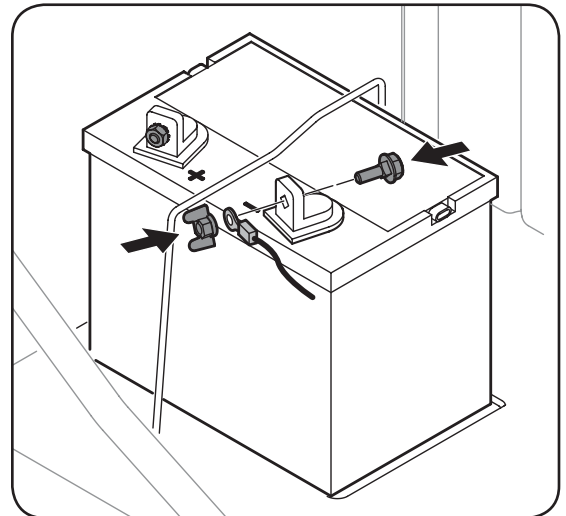

Figure 3-2
- Remove the black plastic cover, if present, from the negative battery terminal and attach the negative cable (heavy black wire) to the negative battery terminal (-) with the bolt and nut. See Figure 3-2.